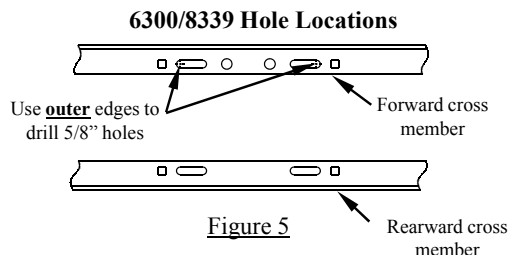

Figure 5
- Use the **outer** edges of the long slots in the forward cross member as a template to drill 5/8" diameter holes through the truck bed as shown in Figure 5. Not all holes can be drilled from under the vehicle, but will be done later from inside the bed.